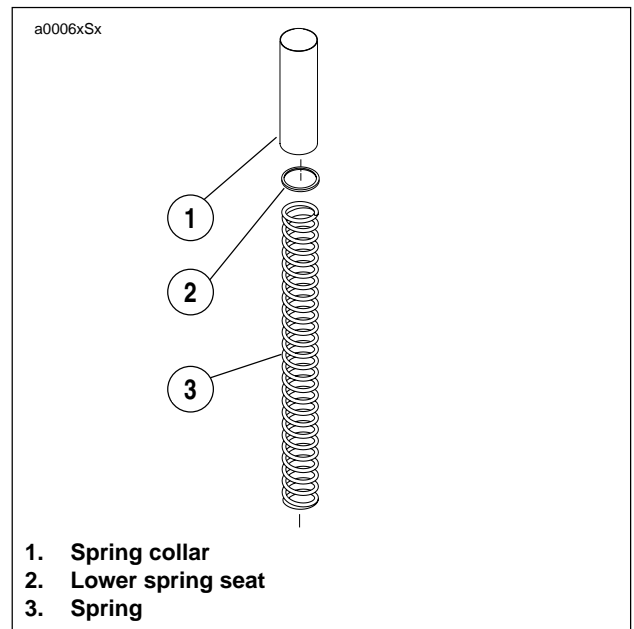

Figure 1-29. Removing Sub-Assembly
5. See Figure 1-29. Remove the spring collar, lower spring seat and spring from slider tube.